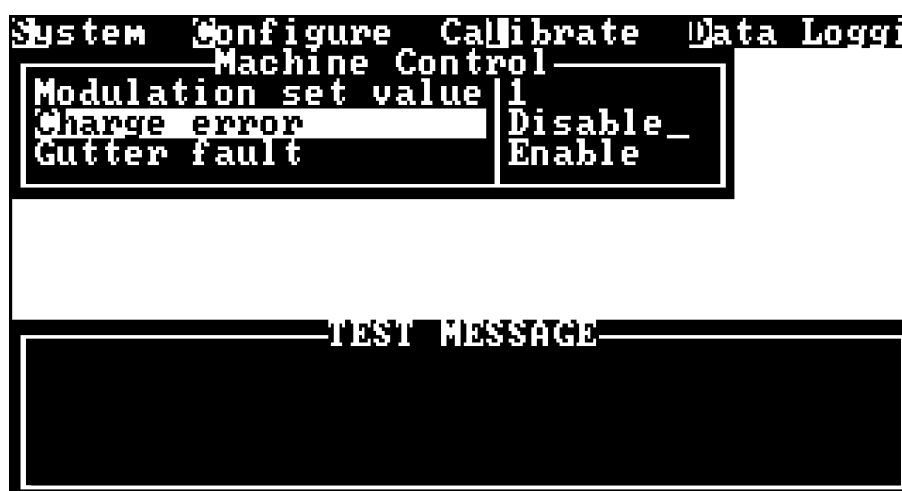

Fig 11.89 Machine Control dialogue box
- 167** When the Charge **E**rror Shutdown/Disable option is selected the Machine Control dialogue box (Fig 11.89) is displayed, the *Charge error* shutdown can then be enabled or disabled, using  or  keys.